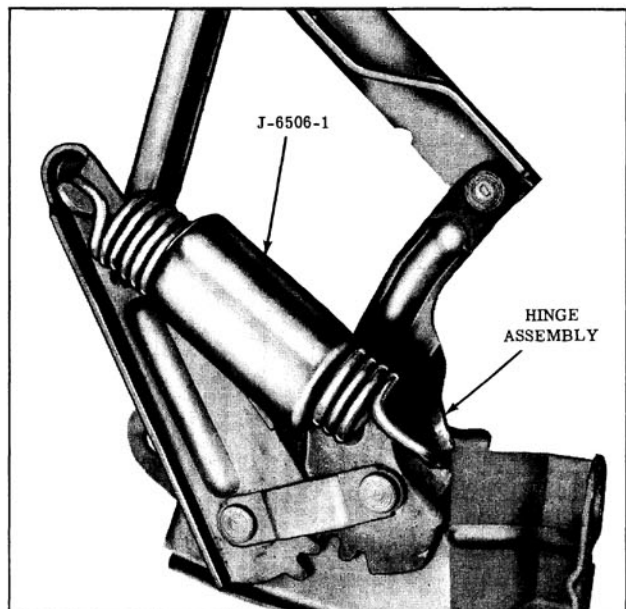

Fig. 15-10 Hinge Spring Tool in Position
1. Raise hood just enough to place Tool J-6506-1 over the spring. (Fig. 15-10)